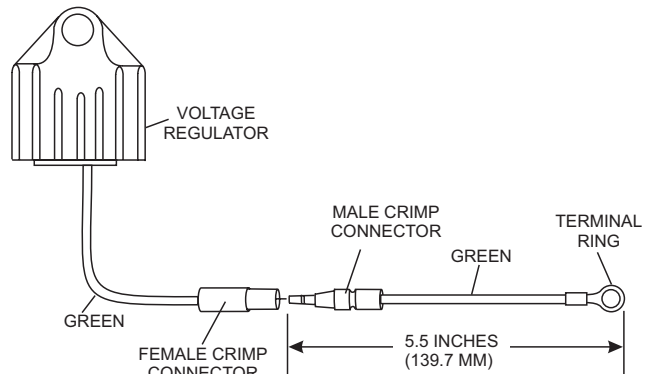

Figure 8. Regulator Green Wire Connection
- Remove the GREEN 5.5-inch wire from the kit. Insert the male crimp connector of this wire (Figure 8) into green wire on the voltage regulator with the female crimp connector.